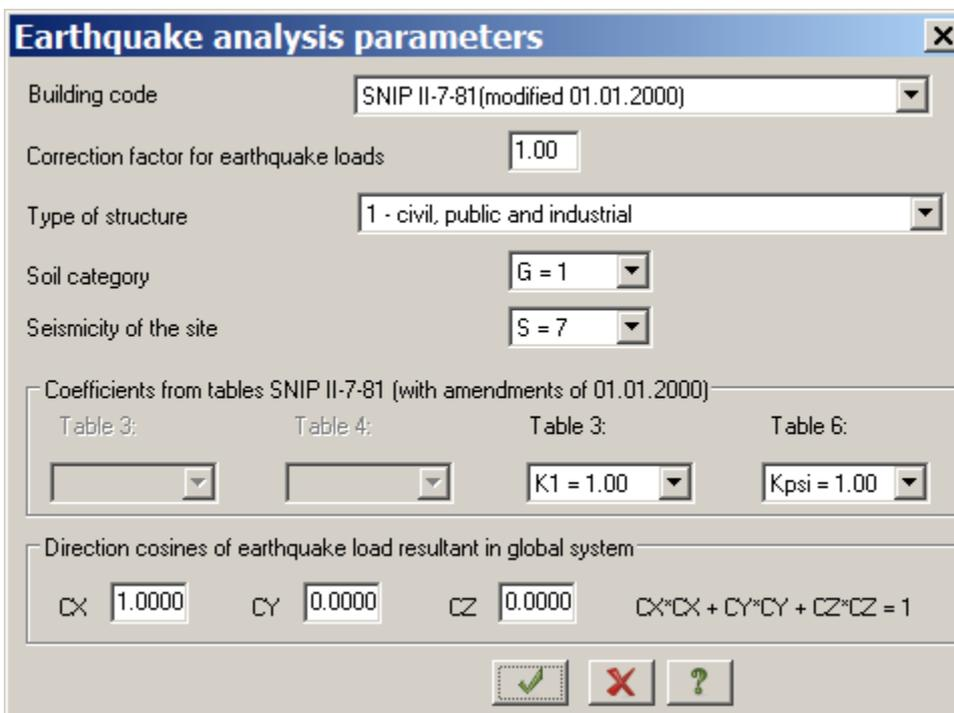

Figure 11.27 Earthquake analysis parameters dialog box
- ⇒ In the **Earthquake analysis parameters** dialog box (see Fig.11.27), define the following data: